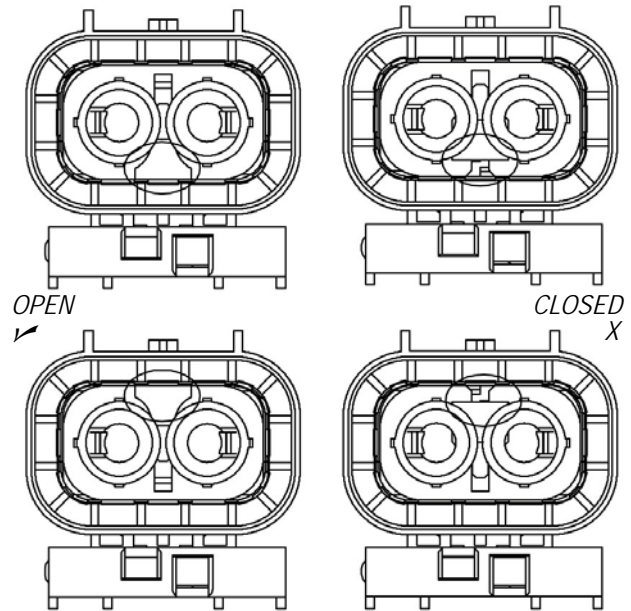

Figure 17
1. Make sure that connector terminal secondary lock is in the open position as shown in Figure 17.
The inner housing, shield, and secondary lock can all be reversed as shown in Figure 17.